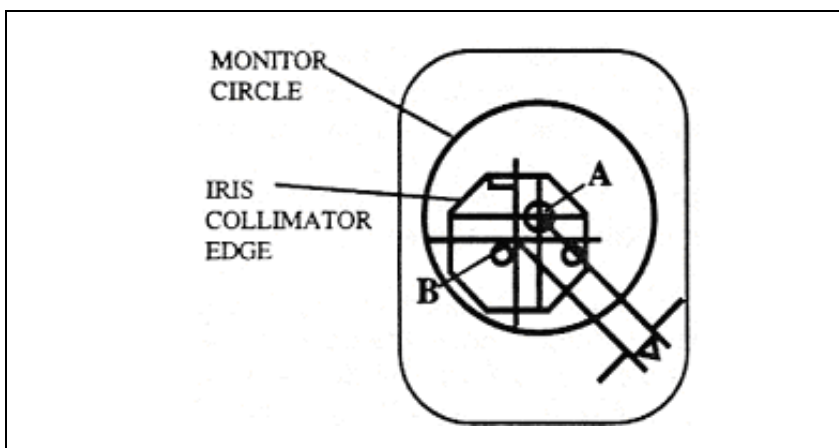

Fig. 8 Evaluating the central X-ray beam
- Evaluate the position of the central beam as shown in Fig. 8.